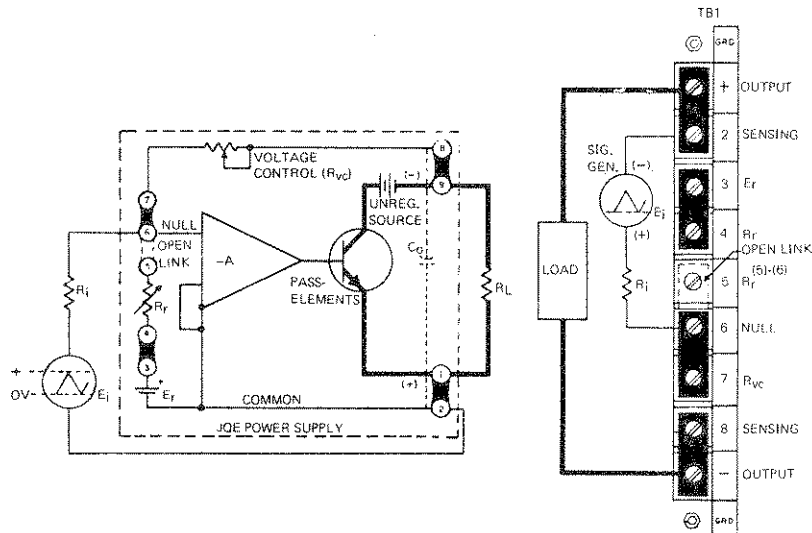

FIG. 3-9 JQE IN THE OPERATIONAL AMPLIFIER MODE
- 3-27 As seen from the expression (Eq.5), if the ratio R_{VC}/R_i (which represents the closed loop gain of the system) is held constant, E_O will vary linearly with E_i , the external programming voltage. The above expression (Eq 5) is seen to be similar to the operational amplifier transfer function in the inverting configuration. The voltage programmed power supply does in fact become a unipolar power amplifier with potentially very high power gain but with limited frequency response. (Refer to FIG. 3-9). The limited frequency response is largely due to the effect of the output capacitor (C_O) acting as a low-pass filter and preventing the output voltage (E_O) from varying rapidly. The output voltage may be varied over the full range, bounded on the high end by the maximum rated value. A practical example to illustrate component selection will be given below.
3-28 Example: A Kepco Model JQE 36-3M is to be voltage programmed over its full range (0 to 36V) by a triangular, positive increasing source with a peak output voltage (E_i) of 2 volts, and able to deliver at least 1 mA control current. Since the required voltage gain is: $E_o/E_i = 36/2 = 18$, the ratio R_{Vc}/R_i must also equal 18. If the internal voltage control is retained, in this case, since $R_{Vc} = 40$ K ohms, R_i must equal 40 K/18 = 2.22 K ohms. FIG. 3-9 shows the JQE Power Supply as an operational amplifier and the necessary rear barrier connections for this mode of operation.